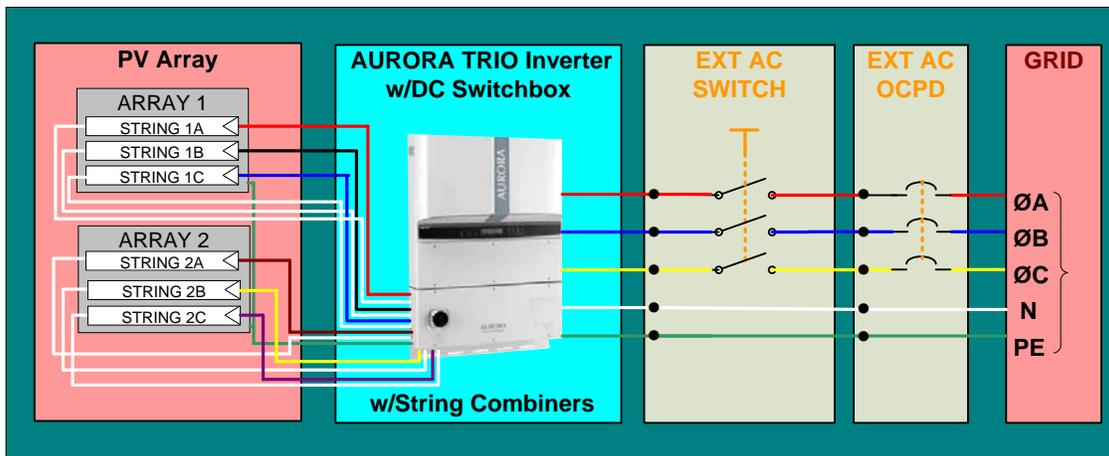

Figure 2.05 - Electrical Connection Diagram PVI-10.0-I-OUTD-S1-US/CAN-XXX-YY
- Typical system connection for this inverter is shown in Figure 2.05